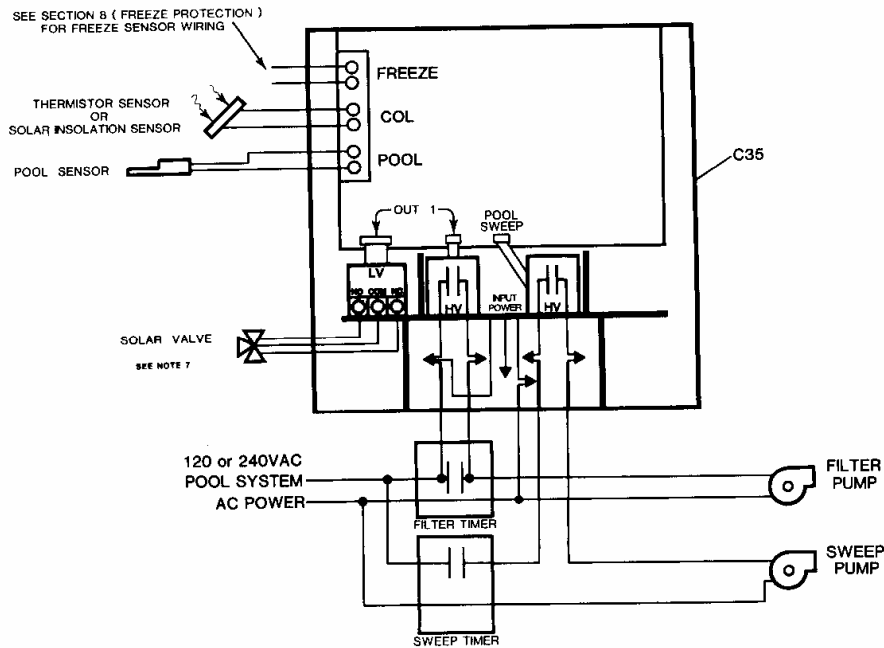

FIGURE 3-3, ELECTRICAL SCHEMATIC, NIGHT TIME POOL FILTERING WITH TIMER OR SYSTEMS WITH RECIRCULATE FREEZE PROTECTION AND/OR NOCTURNAL COOLING
6. If Recirculate Freeze Protection is selected it must override the pool system timer. Wire as shown in Figure 3-3 and refer to Section 8, Freeze Protection. Note that the C35 is powered continuously and that the Output 1 HV module overrides the filter pump timer to provide proper Recirculate freeze protection.